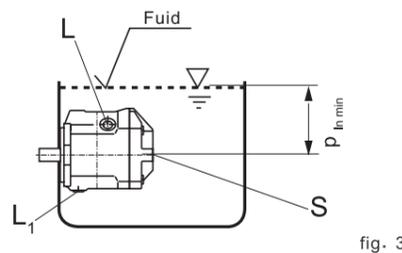

fig. 3
- a) When the minimum fluid level is the same as or lies above the upper edge of the pump then: drain port L or L1 and port S are open (see fig. 3).